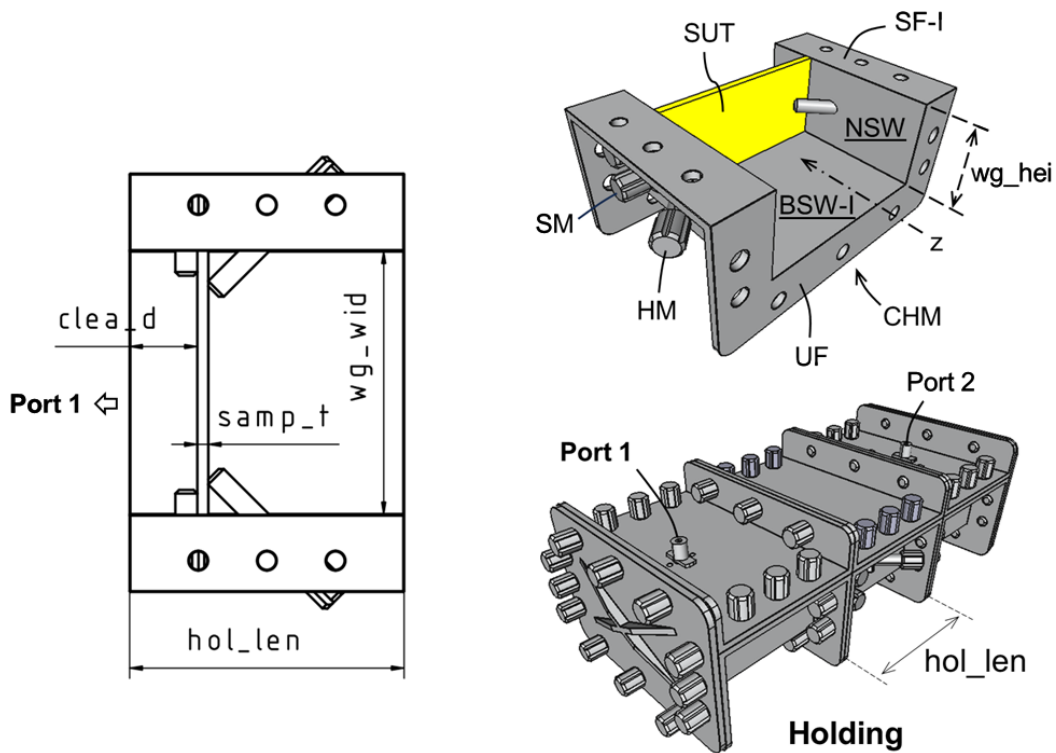

Fig. 5. Physical dimensions of the Waveguide Sample Holder (WSH).
Examples of the physical dimensions on the Waveguide Sample Holder (WSH) are illustrated in Fig. 5.
In Fig. 5, “clea_d” is the clearance distance, in millimeter (mm), from the supporting member (SM) contact points on the SUT to the open end of the waveguide sample holder. When fully assembled, this open end is engaged with the input waveguide coax adapter, which is terminated with the coaxial port, Port 1.